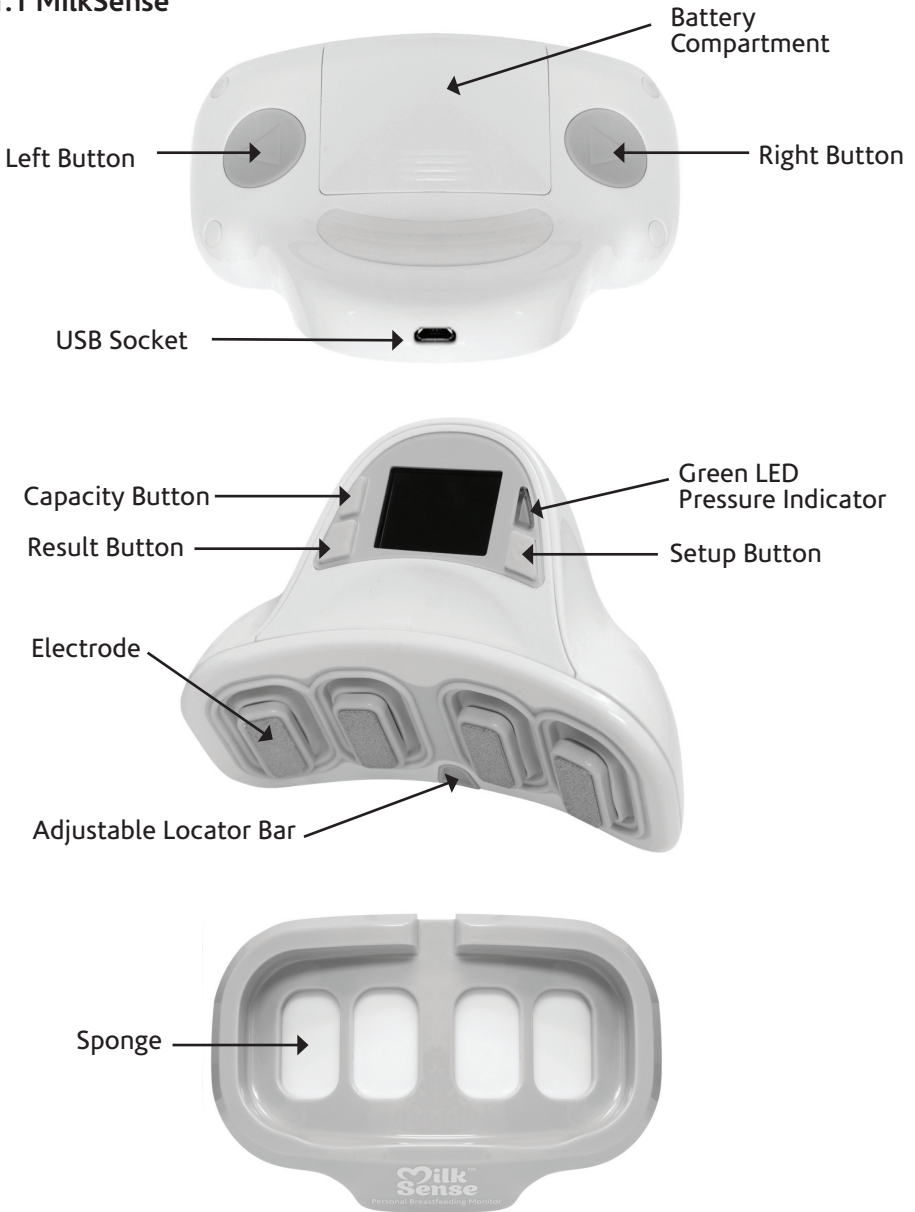
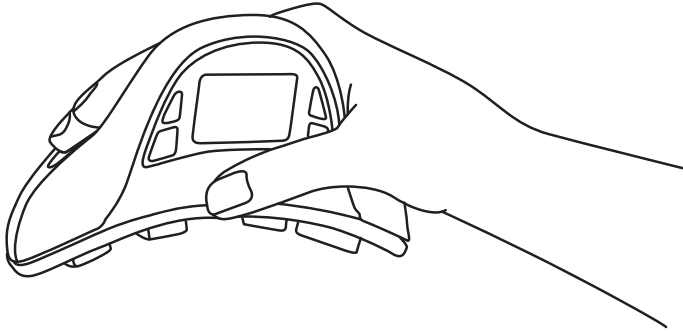

Figure 1: MilkSense (Monitor and Cradle)
Figure 9: Holding MilkSense
2. Hold the monitor in your palm with your thumb in front of the monitor below the screen, and with your fingers laying in a natural position across the monitor as shown in *Fig. 9*. Press the "Left" or "Right" button (see *Fig. 1*) that is located below your third finger according to the side of breast that you choose. The chosen side letter ("L" or "R") will appear on the screen and a hand symbol () will appear showing that the monitor is ready for contact with the breast. If you change your mind about the side you want to measure, simply change hands and press the other side button. In order to abort the procedure, you may press any button next to the display. After 30 seconds, the display will turn off and you will need to press the Left/Right button again in order to resume the measurement.